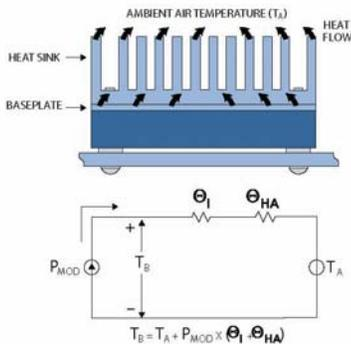

Figure 10a Thermal model for convection cooled systems.
Convection cooling is by far the most popular form of cooling used. In a convection cooled system the heat energy is transferred from the module to a nearby body of air either by direct contact or via a heat sink attached to the module baseplate. The thermal model for convection cooling is shown in Figure 10a. The baseplate temperature depends on the internal power dissipation, the total thermal resistance from the baseplate to the ambient air, and the ambient air temperature. The interface resistance can be minimized
3. Determine the required thermal resistance from the heat sink to the ambient air. Referencing Figure 10a, we can derive the following formula for heat sink-to-ambient thermal resistance: